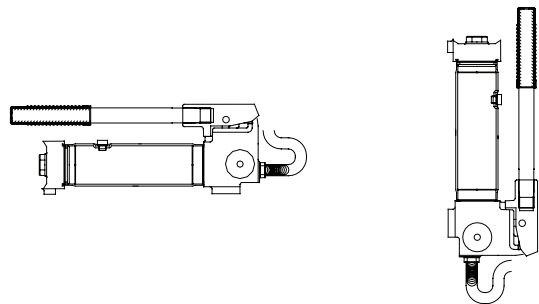

Figure 3 - Horizontal and Vertical Position
3. Pump may be used in horizontal and vertical position as illustrated in Figure 3.